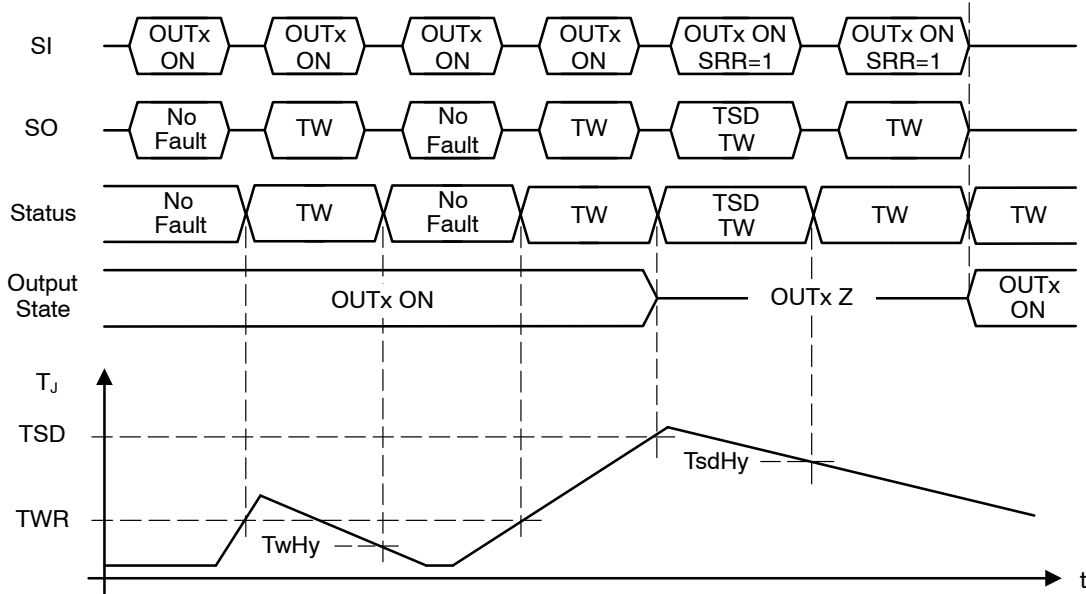

Figure 23. Thermal Warning and Shutdown Timing
Thermal warning (TW) and thermal shutdown (TSD) detection and control are provided for each half-bridge by monitoring the driver pair's thermal sensor. Thermal hysteresis is provided for each of the warning and shutdown functions to ensure clean detection transitions. Software polling of the TW bit allows for avoidance of thermal shutdown since TW notification precedes TSD notification. Thermal warning and shutdown timing is shown in Figure 23.